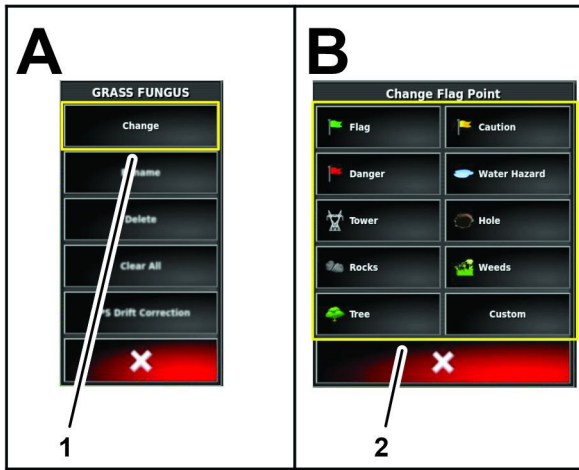

Figure 84
- In the edit flag menu, press the CHANGE icon (Figure 84).
- In the change flag point menu, press the icon for the flag-point type (Figure 84).